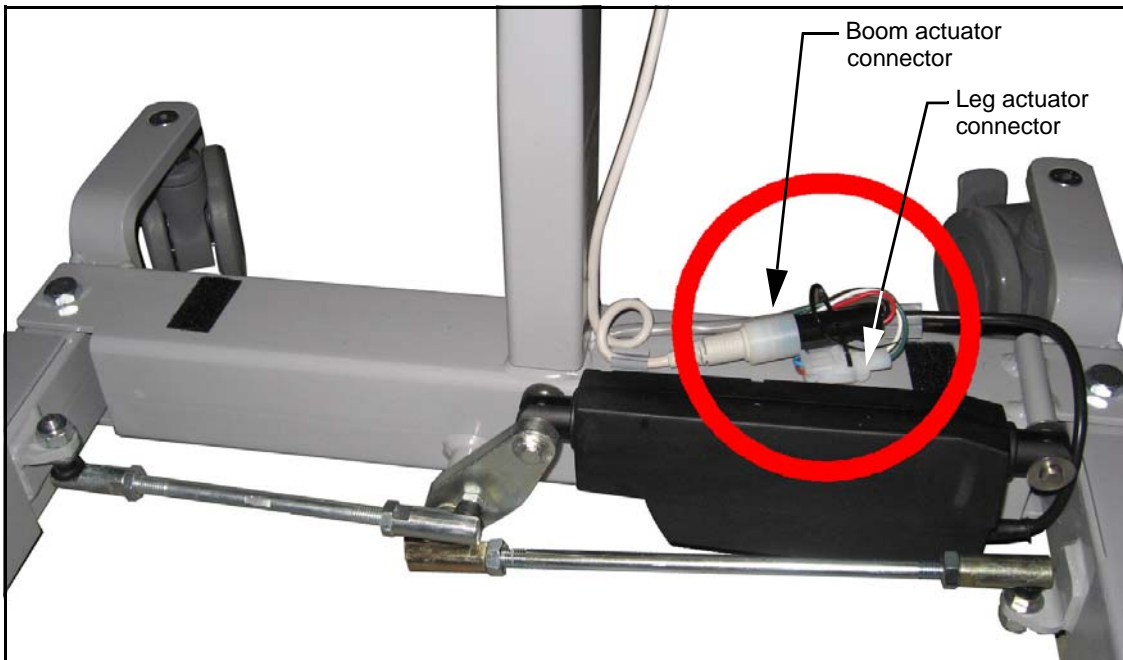

Fig. 15
- 4) Remove the base cover and disconnect the leg actuator from the power supply. The connector is located on the left side of the lift (see Fig. 15).
- 6) Remove base cover and disconnect the mast section from power supply. The connector is located under the base cover on the left side of the lift (see Fig. 15).